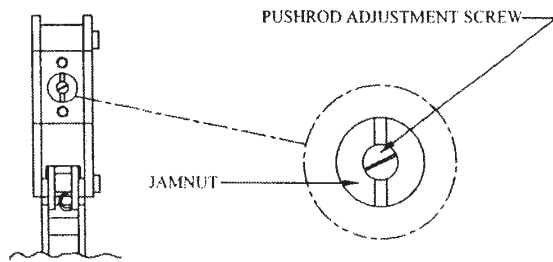

Figure 7-29. Adjustment of Safety Cable Indenter (Same for hand and pneumatic tool models)
k. Unlock the jamnut using the SCT32084 tool (supplied by the manufacturer). Adjust the pushrod adjustment screw using a 1/4 inch straight edge screwdriver (see Figure 7-29). Turn the screw clockwise to loosen the crimp (enlarge the gaging dimension), or counterclockwise to tighten the crimp (reduce the gaging dimension). After each adjustment, securely tighten the jam nut using the SCT32084 tool (while holding the adjustment screw tight with the screwdriver). Reinstall the tool nose being sure to tighten the 8-32 socket cap screws securely.